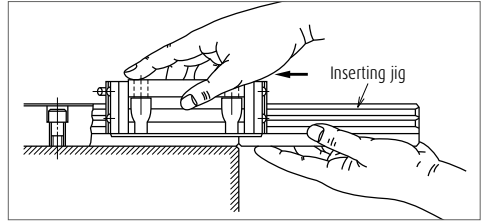

Fig. 27
- > If it is unavoidable to remove slides from the rail, make certain to use a provisional rail (a jig used to insert a slide to the rail) as shown in **Fig. 27**.